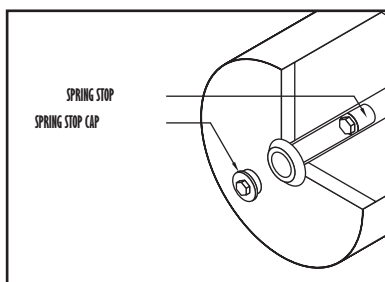

figure 2
1.2 Spring Canister (See figure 2)